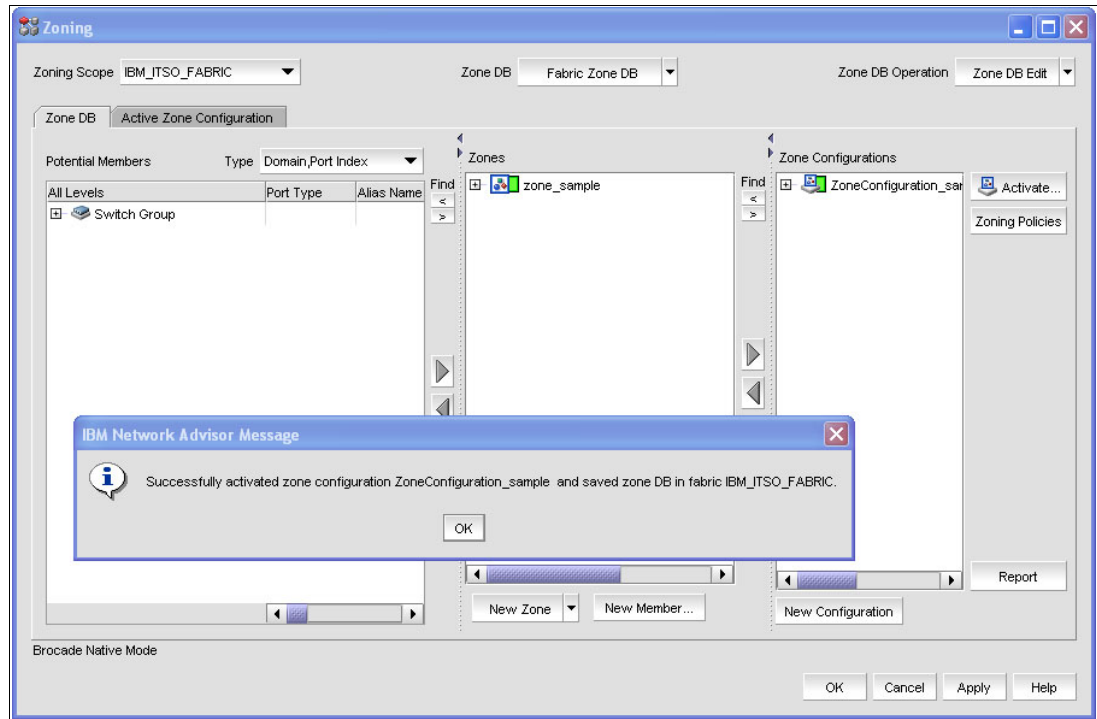

Figure 8-53 Zoning activated
11. After activation you will see that all active zones and the active Zone Configuration have green markers attached, as shown in Figure 8-53 on page 295.